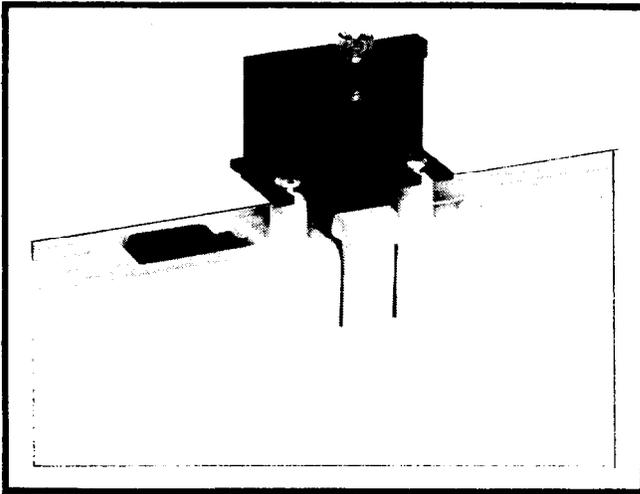

Figure 9 Remount Screw Clamp on Bottom of Housing
6.18 Some linefinder shelves may not have enough clearance below the angle iron to mount the M-164-71's. In these installations the M-164-71's are mounted upside down above the angle iron. Alternatively, the mounting bracket may be moved to the bottom of the housing and the unit mounted right side up (see Figure 9).